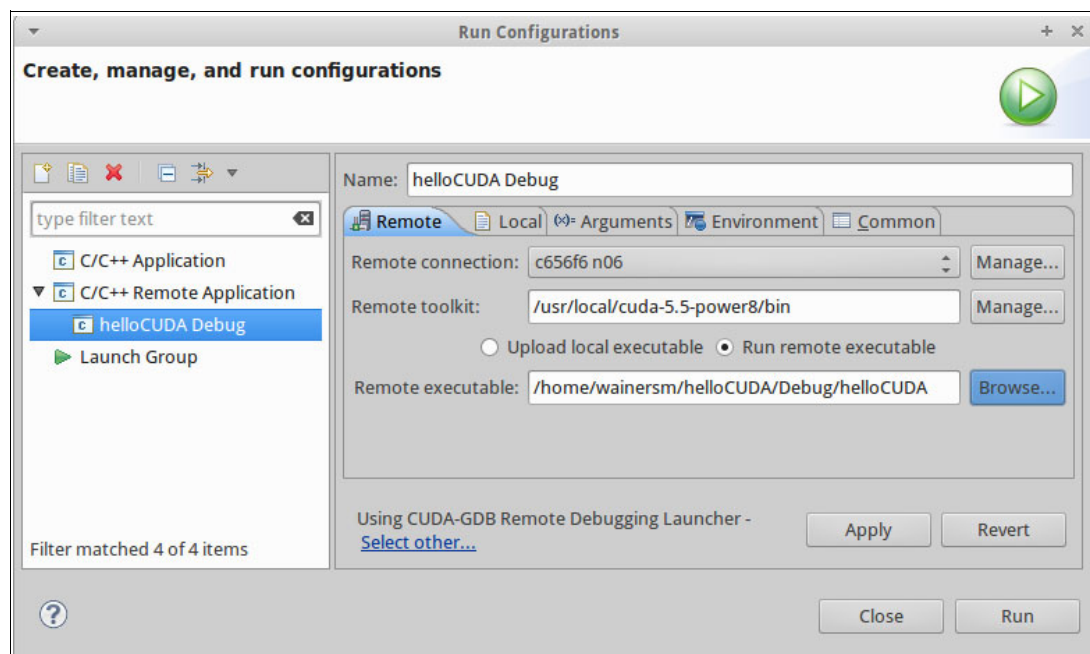

Figure 16 Run Configurations window
2. Double-click **C/C++ Remote Application**. The Run Configurations window appears, as shown in Figure 16.